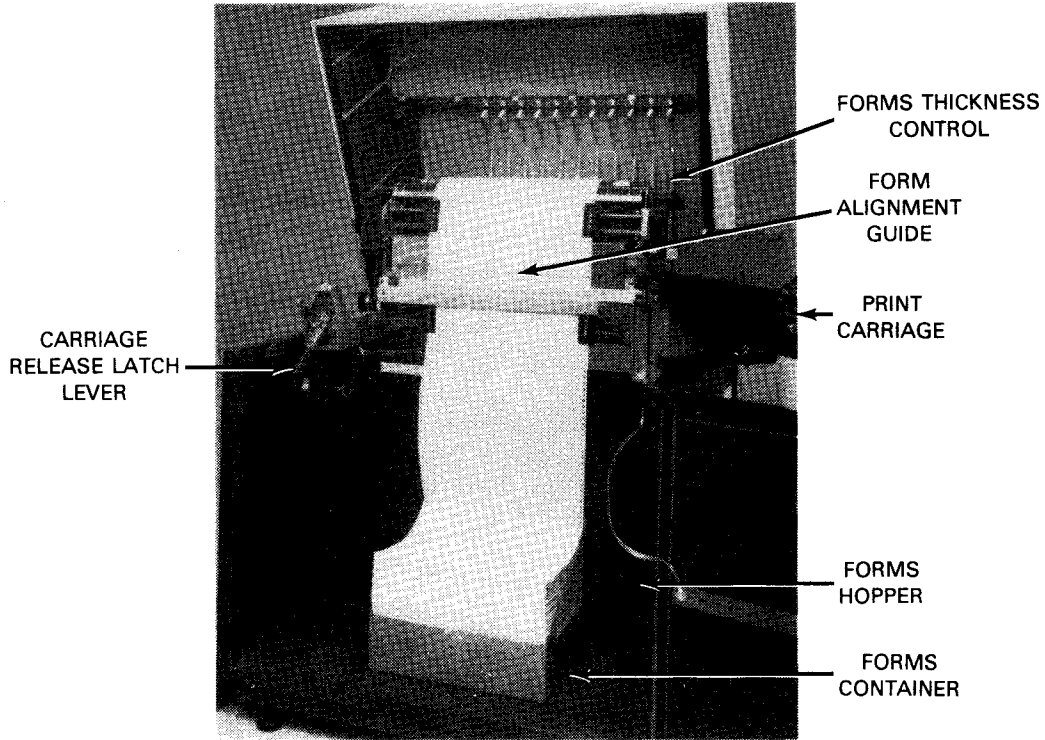

Figure 5-95. Form Path at Front of Printer
16. Swing the form alignment guide back to the print carriage and latch it magnetically to the carriage (Figure 5-95).
17. Check that forms move unimpeded from the container in the forms hopper (Figure 5-95).
18. Adjust the forms thickness control (Figure 5-95) for proper thickness according to the print forms pack to be printed.